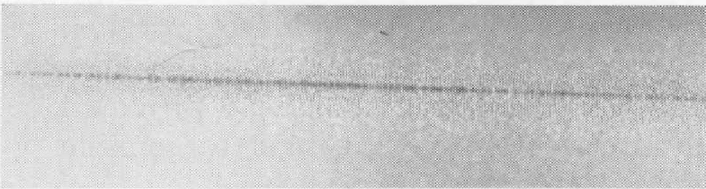

Figure 3. A head-on view of the same conditions shown in Figure 2. There are about 130 filaments per inch.
**Figure 3. Cabinet, Variac, and Control Station for Types 1704-A and 1705-A Controls Rated One and One-Half Horsepower. The shallow cabinet takes very little room on the side of a machine.**